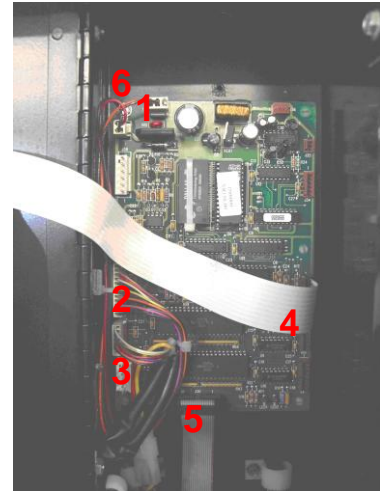

Figure 3
5. Disconnect the (1) J37 & J38 Power, (2) J40 Micro Mech, (3) J41 Serial Validator, (4) J33 Display ribbon harness and the (5) J30 Interface PCB harness. See Figure 3.
6. Remove the controller PCB by removing the screw in the upper left-hand corner of the board then lift the PCB up and forward out of the machine. DO NOT DISCARD THE SCREW. See Figure 3, Index 6.